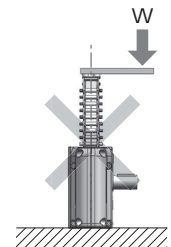

Figure 2
7. Install the unit so that the load put on the main body will act on the shaft placed in the same travelling direction as that of the Zip Chain. If the direction of action or position is not correct, the Zip Chain may receive bending loads or lateral loads that can damage the unit. (Figure 2)